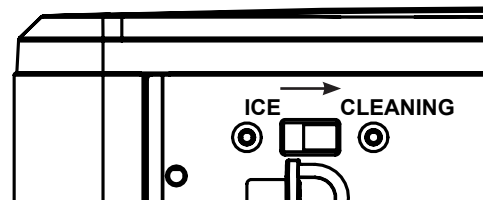

Figure 2
4. Plug in Opal and slide the rear switch to the "**CLEANING**" position. See figure 2.